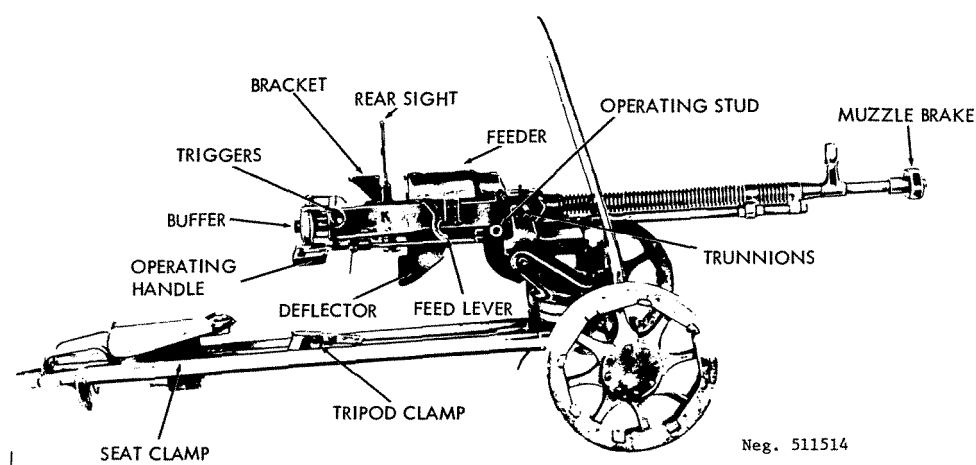
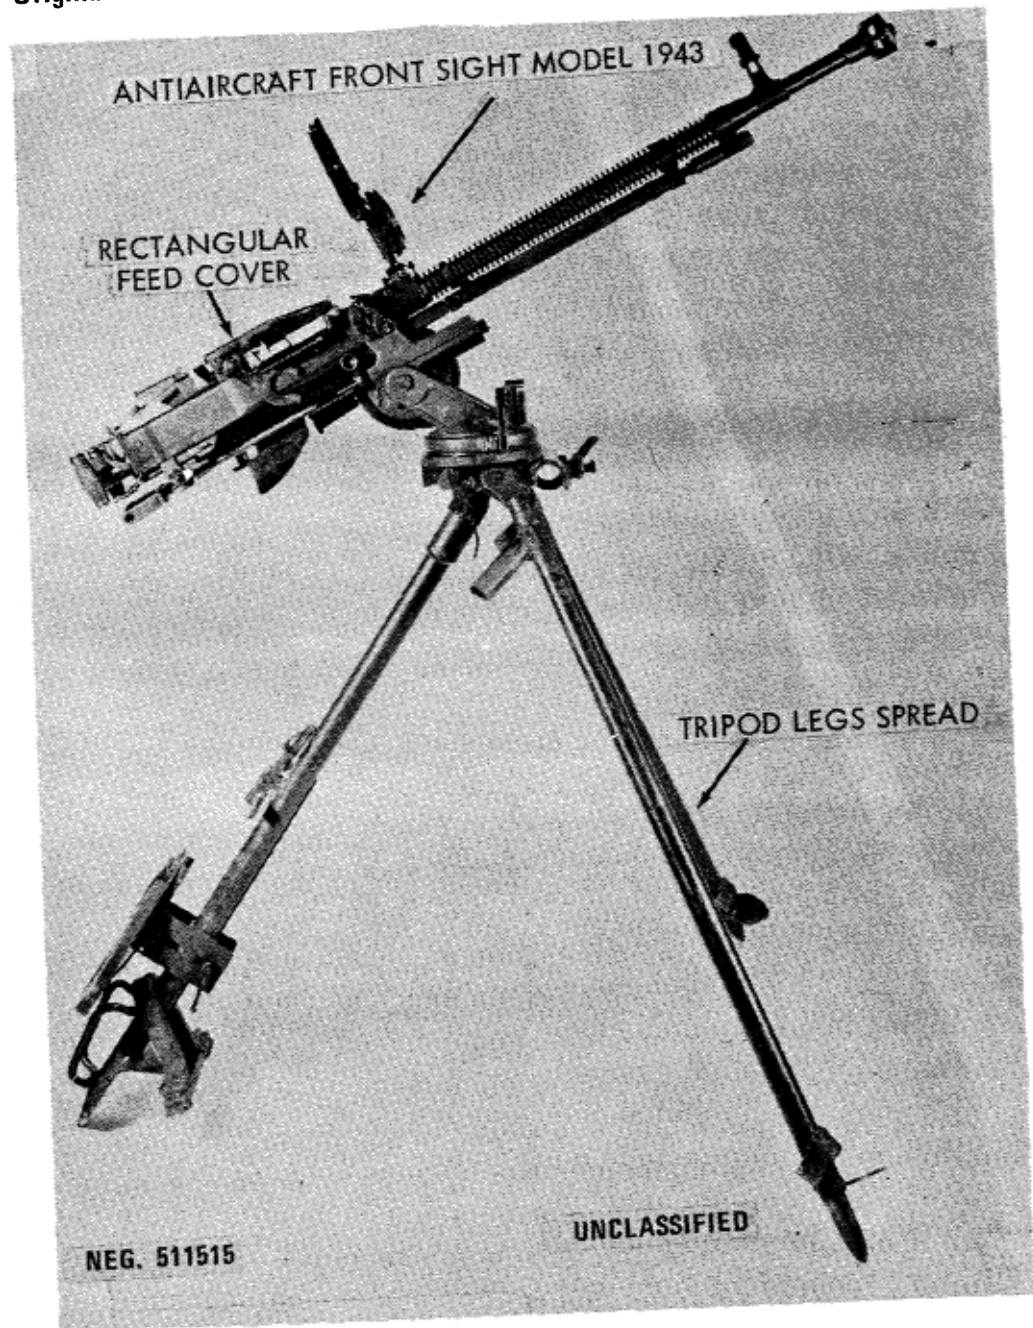

Figure 215. 12.7-mm DShK-38 heavy machinegun.
Figure 216. Model 38/46 (DShKM) heavy machinegun
original DShK-38 machinegun (fig 215) has a complicated rotary feeder that was superseded by a conventional shuttle-type feeder in the Model 38/46 (fig 216). A number of other changes in the Model 38/46 made most of the parts noninterchangeable between the two guns. The Model 38/46 is also known as the DShKM. The People's Republic of China produces the Model 38/46 as the Type 54 heavy machinegun. These guns can be identified by the Chinese characters stamped into the receiver behind the feeder. Late PRC guns have smooth barrel exteriors. A quadruple mount version of the M38/46 is produced in Czechoslovakia (fig 217).
c. The mount can be used for ground fire and is easily converted to antiaircraft use (fig 216).
e. Pull the operating handle (fig 215) fully rearward; then thrust it forward.
g. To fire the machinegun, rotate the safety rearward; then, using a normal sight picture, aim, and squeeze the trigger (fig 215). The bolt will remain closed on an empty chamber when the last round has been fired.
a. The DShK-38 and the Model 38/46 heavy machineguns are mounted on the Model 1938 mount (figs 215 and 216). This wheeled mount is used for ground fire and can be readily inverted for antiaircraft fire (fig 216). A large flat armored shield is occasionally used to protect the crew when the gun is used in its ground role. Like all Soviet heavy machinegun mounts, it has a large free traverse and elevation movement, with a fine adjustment on the elevation movement only. Some late PRC mounts are tripods only and have no wheels.
b. The Model 1943 antiaircraft sight (figs 216 and 221) is a computing sight. When the assistant gunner turns the target course hand crank to rotate his sight to conform with the apparent course of the target airplane, a gear drive rotates the main sight to provide correct deflection. By sighting through the AA peep sight and using the correct marker on the main ring, the place can be correctly lead during fire.